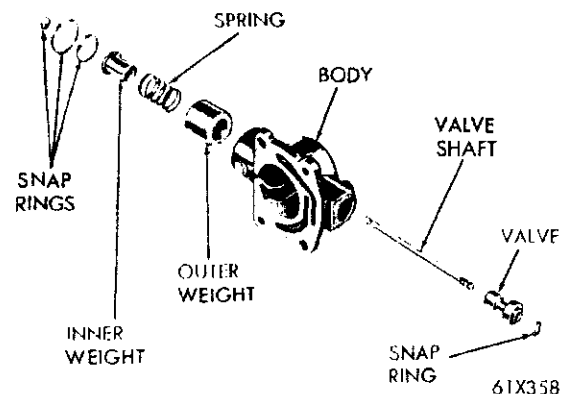

Fig. 41—Governor Assembly (Disassembled)
(4) Remove snap ring from inside governor weight. Remove inner weight and spring from the outer weight. Figure 41 shows a disassembled view of the governor assembly.
(5) Remove the snap ring from behind the governor housing, then slide the governor housing and support assembly off the output shaft. If necessary remove four bolts and separate governor housing from the support.